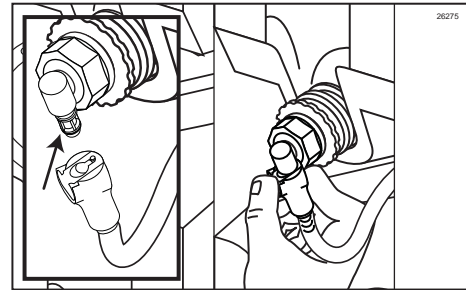

Figure 167
13. Connect the Syrup Bag Connector to the Syrup Bag Adapter. (See Figure 167.)